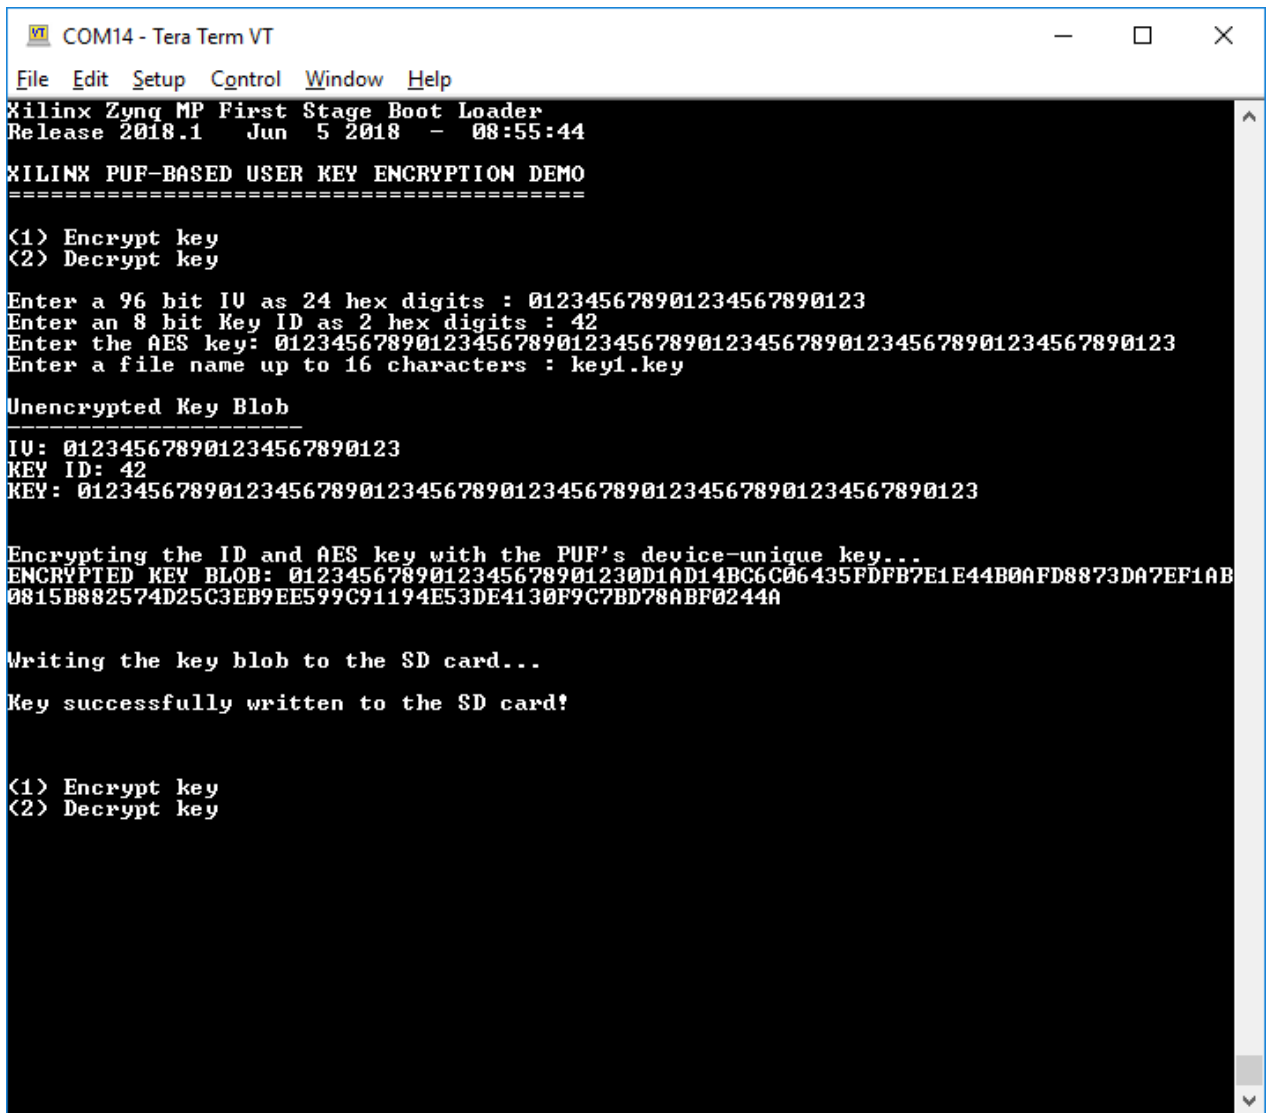

Figure 19: External Key Storage Encryption
31. Press **1** to encrypt a user key and to save the encrypted key to the external SD card and follow the prompts, as illustrated in Figure 19.
- Open both keys in a hex editor and confirm that they match the encrypted key blobs displayed in the user application. KEY1.KEY is shown in Figure 21 and matches the output generated in Figure 19.